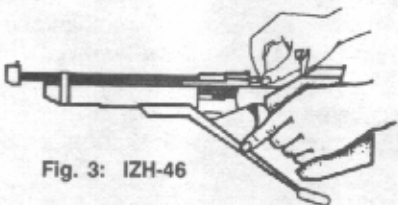

Fig. 3: IZH-46
B) Make sure you have completed the pistol cocking sequence before you insert the pellets with the skirt to the rear (See Fig 3) , Warning - If the pellet is not fully seated, it will be deformed when the bolt is closed / locked in place.